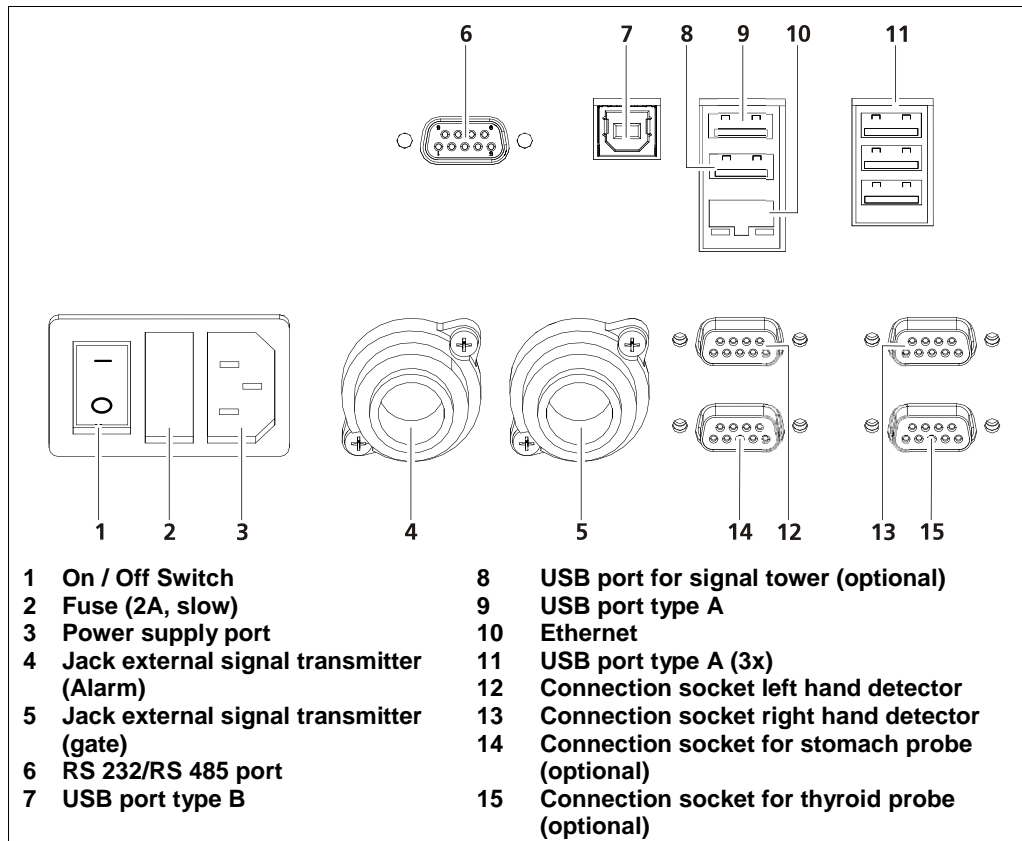

Fig. 5 LB 147 Connector pin assignment (rear panel)
5 USB ports are located on the rear panel (Fig. 5, item 8, 9 and 11). The signal tower (optional), transponder or magnetic card reader (optional) are connected to these USB interfaces.
- Connect the 100/240 VAC supply cable (included) to the terminal for the power supply (Fig. 5, item 3).
In addition to the fixed foot detectors, two hand detectors can be connected to the device (Fig. 5, item 12, item 13).
Optionally, a stomach and thyroid probe can be connected (Fig. 5, item 14 and 15). The power supply for these probes is +5 VDC.
The optional signal tower is connected via USB (Fig. 5, item 8).
The device includes a configurable serial interface (RS232 or RS485) (Fig. 1, item 18 and Fig. 5, item. 6).
There are 5 master interfaces and 1 slave interface (Fig. 5, items 8, 9, 11). One master interface is provided for connecting the optional signal tower (Fig. 5, item 8).
The device includes one Ethernet interface (Fig. 5, item 10). The Ethernet interface is used as a transmission medium for communication between the PC and the LB 147. Upon activation (see chapter 7.16 Hardware Test) of the CE Rem. display (remote control), the unit can be operated via the network connection (see chapter 7.17 Connect).